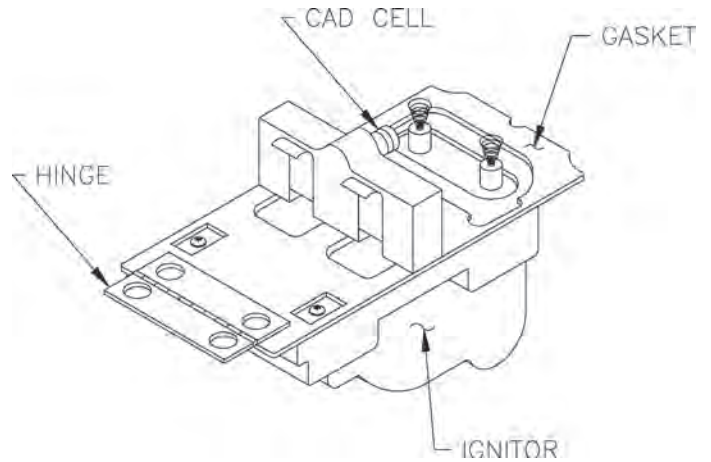

Figure 37: Cad Cell Location
- iv. Cad Cell Check: See Figure 37.